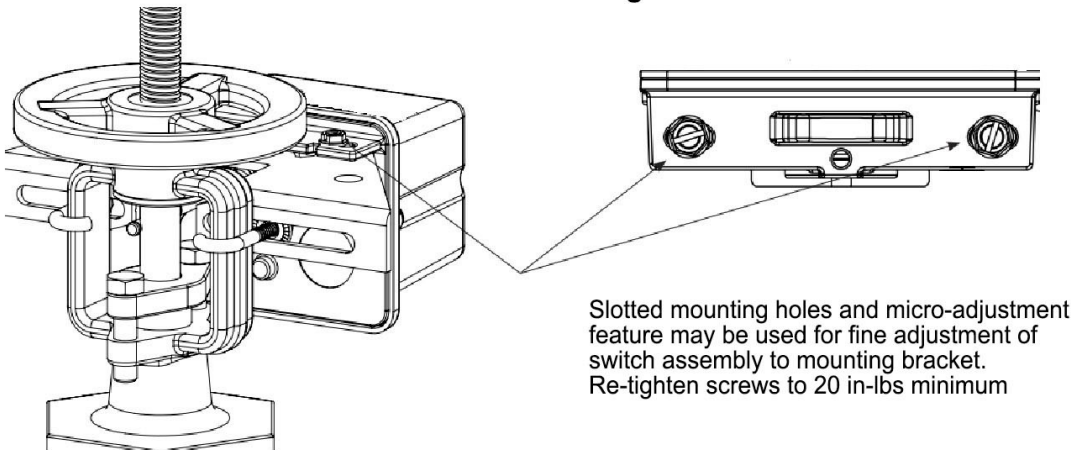

Fig. 3
a. Turn the gate valve in the FULL OPEN position, locate the SWOSY across the valve yoke as far as possible from the valve gland so that the spring loaded trip rod of the SWOSY is pulled against the non-threaded portion of the valve stem. Position the SWOSY with the bracket near the hand wheel as shown in figure 3.
e. Final adjustment can be made by slightly loosening the two screws on the bracket and using the fine adjustment feature (see fig. 3). The adjustment is correct when the plungers on the switches are depressed by the actuator and there is no continuity between the COM and NO terminals on the switches.